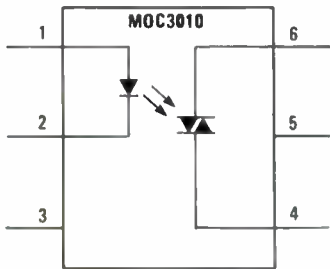

Fig. 3—This block diagram shows the inner workings of the MOC3010 optoisolator/coupler. Its output element is a diac or triac driver.
**Interface.** Each output of the sequencing circuit is connected to an MOC3010 optoisolator/coupler (U3–U6), which contains an infrared-emitting diode with an infrared-sensitive diac (triac driver or trigger) in close proximity. (See Fig 3.) The diac is used as a trigger for the triac, which carries the 117-volts AC.